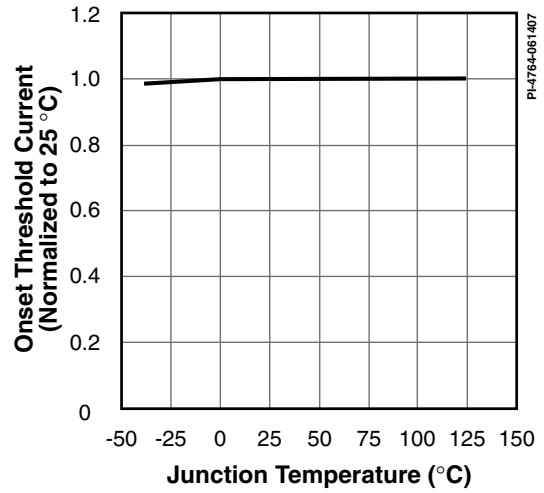

Figure 36. Maximum Duty Cycle Reduction Onset Threshold Current vs. Temperature.
- D. For externally adjusted current limit values, please refer to Figures 36 and 37 (Current Limit vs. External Current Limit Resistance) in the Typical Performance Characteristics section. The tolerance specified is only valid at full current limit.